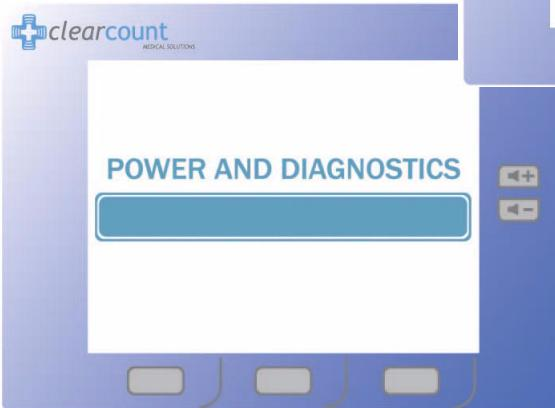

Figure 2-3 Boot-up Screens
After the on/off switch is set to on (|), the Starting screens shown in Figure 2-3 appear.
The Starting Screen, shown at the top of Figure 2-3, appears on the display first for 10 seconds after the on/off switch is set to on.
The Boot Screen, which follows the Starting Screen appears for 3 seconds. Shown in the center of Figure 2-3, this screen shows the version of system firmware and the device (SmartSponge System) identification (ID).
The Diagnostic Screen, shown at the bottom of Figure 2-3, appears for 9 seconds. This screen has a Progress Bar that fills in from left to right in segments. When the bar completely fills in, the system displays the Standby (ON) screen. See Figure 2-4. The **Standby** Screen remains on the display until the user presses the **ON** button to start or continue a surgical case.